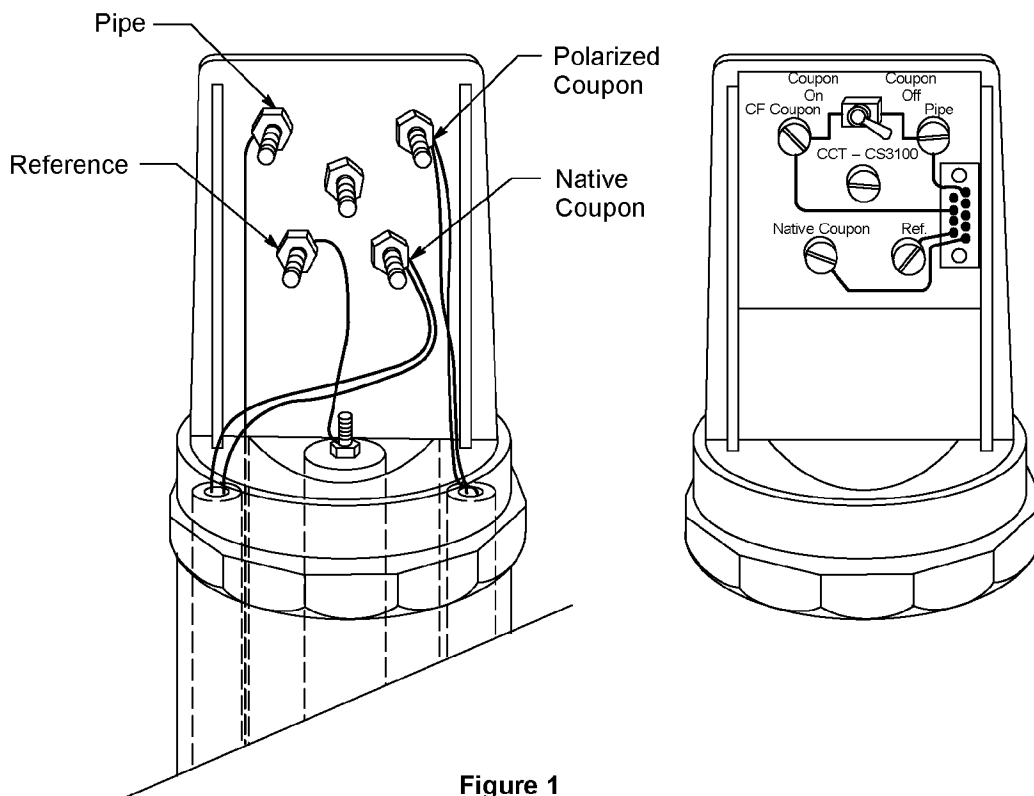

Figure 1
10. After filling the tube with soil, request that the corrosion mechanic connect the wire leads to the coupon-station head (See Figure 1 on Page 3). Do not cut or shorten the wire leads. Do not connect any coupons to the pipe at this time.